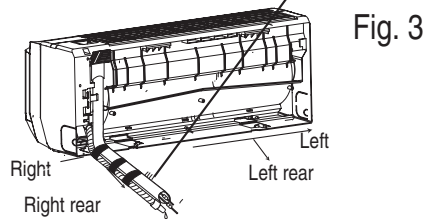

Fig. 3
2. Remove piping from the body case, wrap the piping electric wire and water pipe with tape, and put them through the piping hole. (See Fig. 3.)